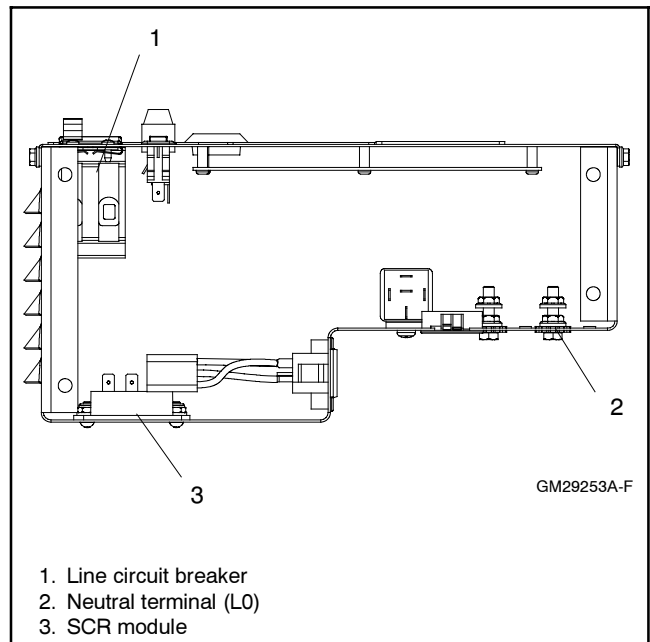

Figure 6-26 Controller
11. Connect the alternator leads inside the controller box. Refer to the wiring diagrams in Section 7 and see Figure 6-26.